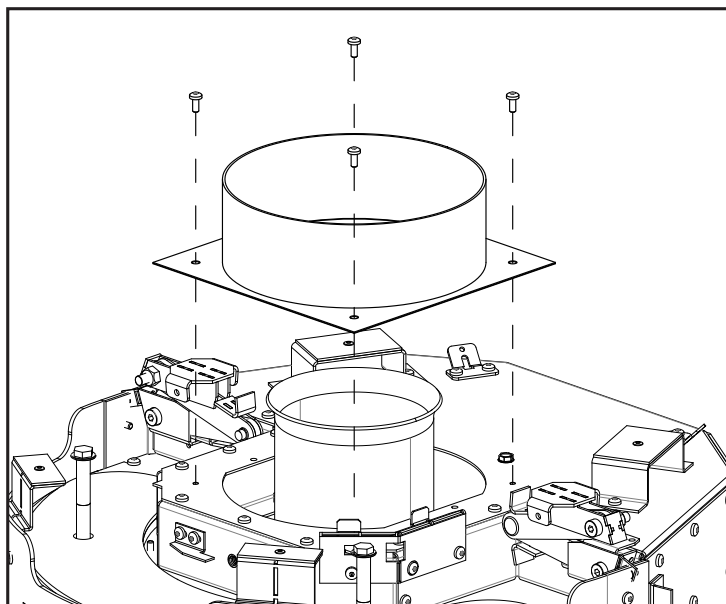

Figure 70: Vent Adapter Removal
7. Remove the vent adapter from the top of the unit by removing the four (4) T20 screws (see Figure 70). Be delicate with the gasket, you will be reusing this.